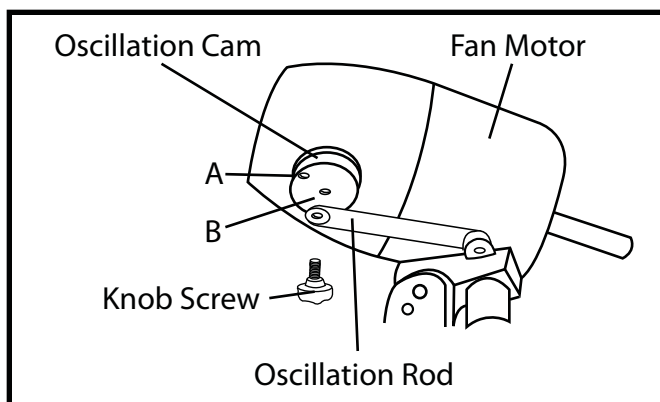

Figure 1
5. Loosen the knob screw that goes through the oscillation rod into the oscillation cam and put it (and the end of the oscillation rod) in position "A" if you wish the fan to oscillate, or position "B" if you wish for the fan to be stationary. Tighten knob screw. (See Figure 1)